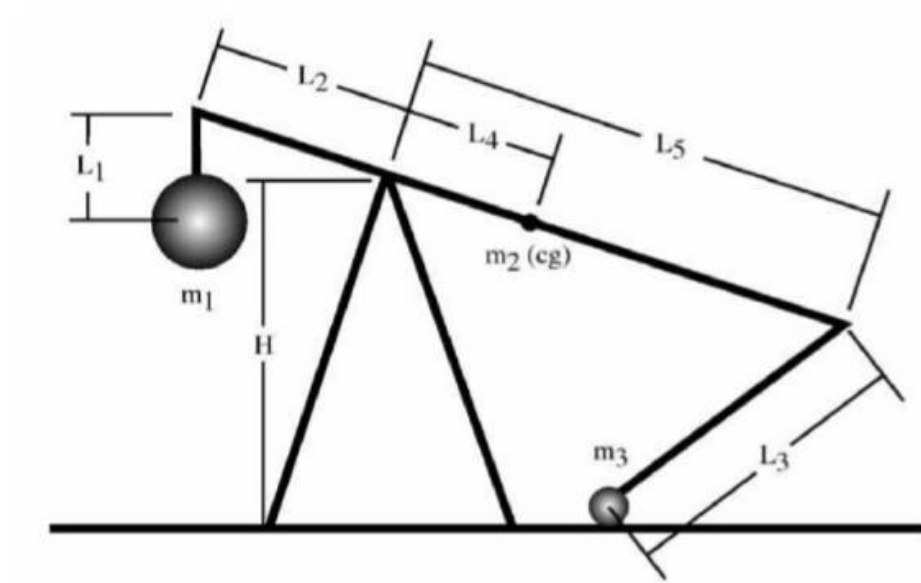

Figure 1: Trebuchet
1. The counterweight (see mass m_1 in Fig. 1) will be up to 4 unopened cans of soda (you may use fewer). The counterweight must be detachable and must be
- (a) Dangling throughout the entire throwing motion (makes no contact with other parts of the trebuchet throwing arm: L_2+L_5 in Fig. 1).
2. The throwing arm (length L_2+L_5 in Fig. 1) must be no longer than 3 feet. The length includes the sling hook (where L_5 and L_3 meet), any mechanism or harness used to attach the counterweight (where L_1 and L_2 meet), and the counterweight itself if contact is made (see #1). The top pivoting lever may not be less than $\frac{1}{4}$ " thick.
3. The throwing arm (length L_2+L_5 in Fig. 1) must be balanced toward the projectile end (see L_5) throughout the entire range of motion. It may not be collapsible. The arm cannot be locked in place while testing for balance. Testing will be performed by removing the counterweight and projectile, lifting the projectile end all the way to within 1 inch of the vertical using a pencil, and lowering the arm back to the ground to the cocked position and should not leave contact with the pencil during the testing motion. If the throwing arm leaves contact with the pencil while lifting, or leaves contact with the ground while in the cocked position, it is not in compliance.
4. The height of the center of the pivot point (H) must be less than or equal to 2 feet 2 inches from the ground.